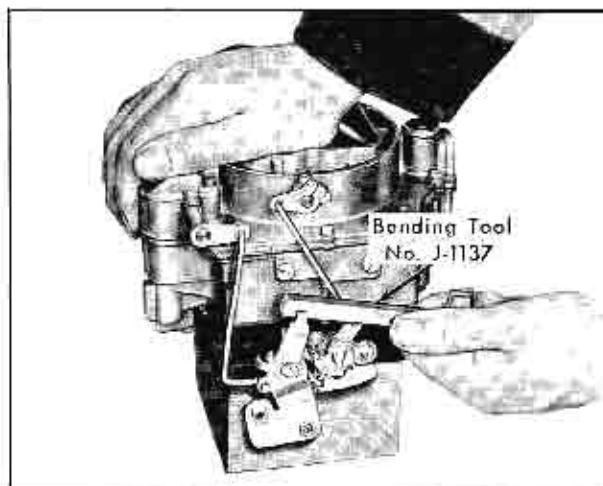

Fig. 12-38 Bending Unloader Tang
3. Using Bending Tool No. J-1137 as shown in Fig. 12-38, bend unloader tang on throttle lever as required.